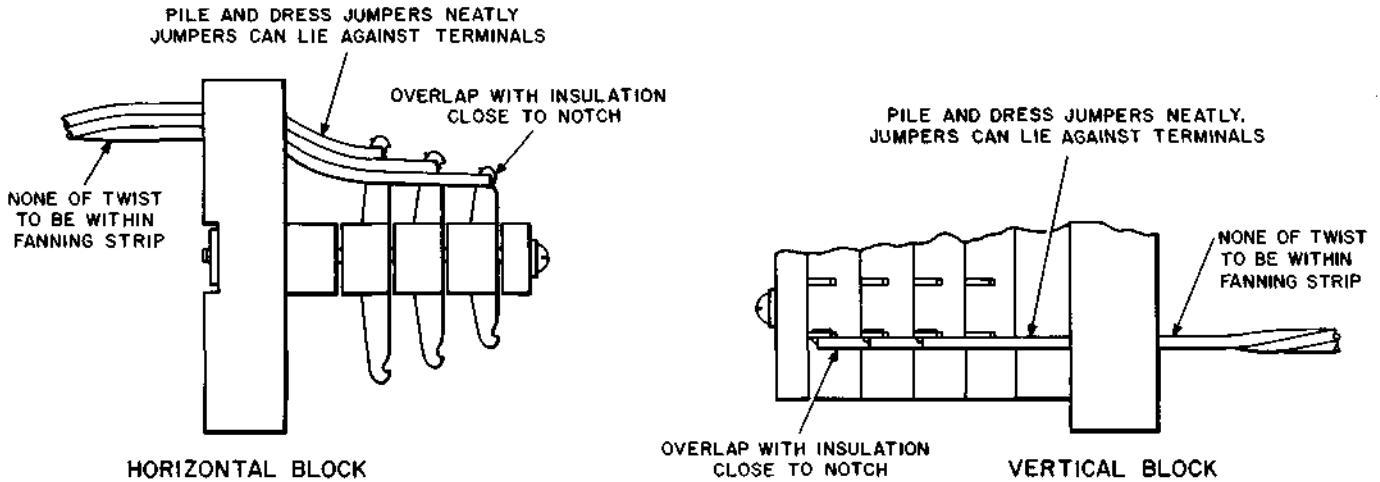

Fig. 2—Termination of U-type Wire on Terminal Strip
5.06 The conductors of the jumper should be untwisted so that none of the twist remains within the fanning strip after the wire is terminated. However, the jumper should not be untwisted more than one regular twist back of the fanning strip. (See Fig. 2.)
8.02 When terminating the wire, hold the jumper back of the fanning strip. Adjust the wire so the insulation comes up close to the notch of the terminal. Wrap the skinned wire around the terminal and cut or break off the excess wire. With this arrangement, the insulation overlapping the terminal will be held firmly in place. Fig. 2 through 10 show typical terminations.
8.10 When terminating jumpers on terminal strips of the type shown in Fig. 2, connect the wire on the terminal nearest the front first and work toward the rear of the block.